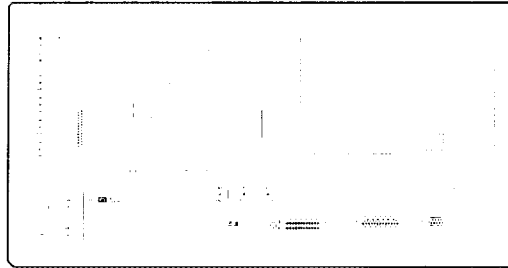

Figure 1-4. Line Voltage Selector
- 5 Set the rear panel line-voltage selector to the position that corresponds to the AC power source. Refer to Figure 1-4.